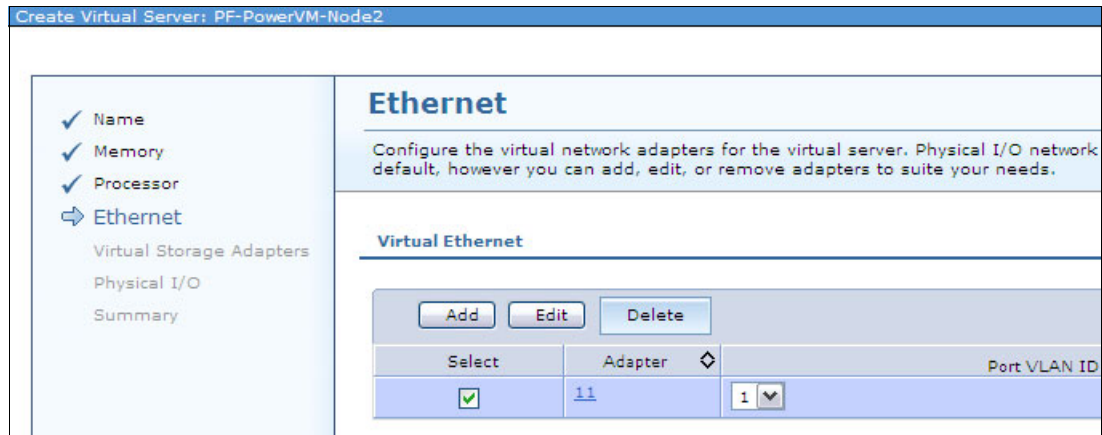

Figure 10-10 Creating the VIOS profile: Ethernet
- Define the virtual Ethernet adapter for the Shared Ethernet Adapter (SEA), as shown in Figure 10-10. Click **Add** to create new adapter or **Edit** to modify an existing adapter.